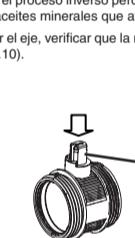

Fig.10
To replace the shaft, it has to be forced as shown in Fig.10. Once the shaft has been removed (1) the O-rings can be replaced (7) Fig.11.
⚠ When reassembling the shaft, check that its slot is aligned/oriented with the housings in the neck of the body (see Fig.10).